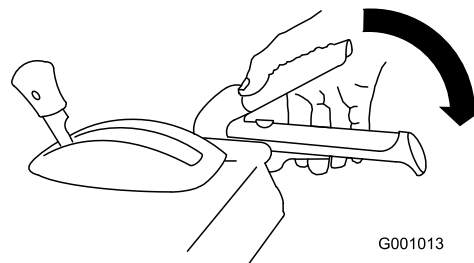

Figure 39
- Engage the auger/impeller lever and hold it in place (Figure 39).